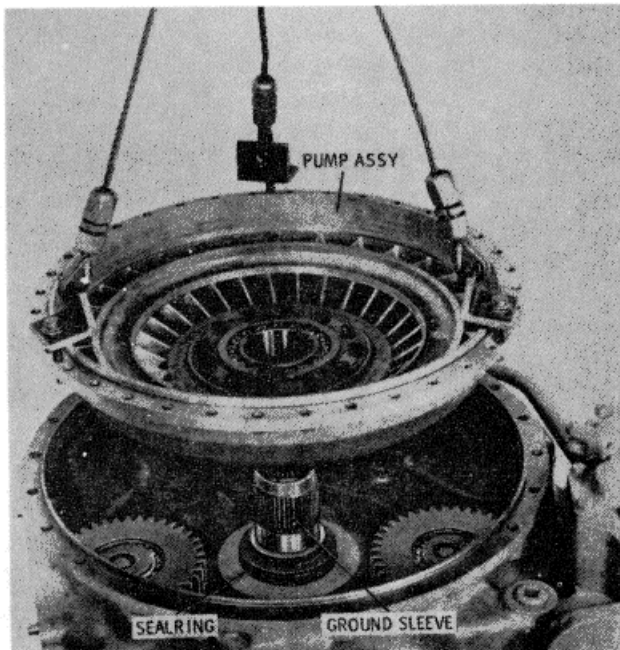

Figure 15-51. Removing Torque Converter Pump Assembly
6. Attach a lifting sling to the converter pump and remove the pump from the converter ground sleeve (Figure 15-51).
7. Remove the step-joint seal ring from the ground sleeve (Figure 15-51).